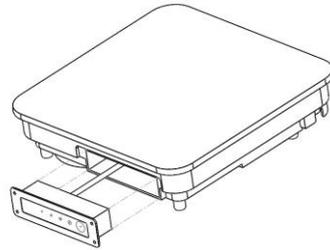

Figure 1. Control Panel Removal
2. Remove the control panel from the body of the induction range. Simply pull the panel straight out by the bottom corners of the panel. See Figure 1 for reference. The control panel will be mounted separately for easy access.